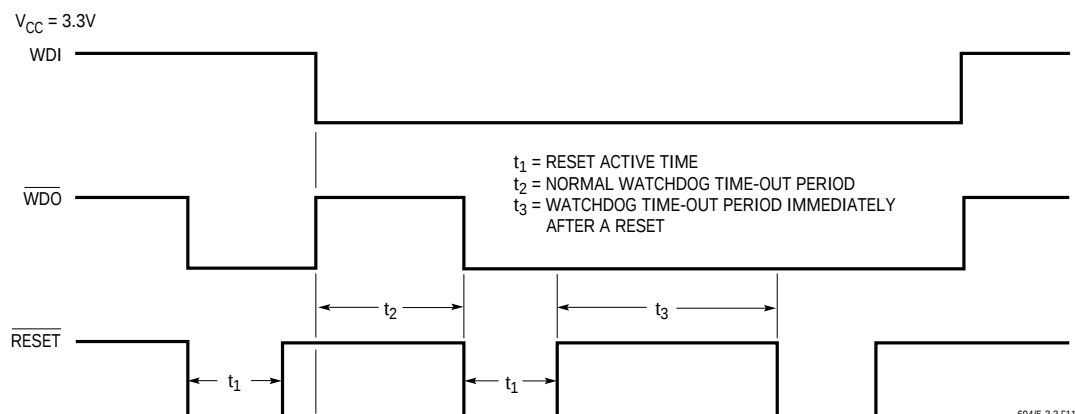

Figure 11. Watchdog Time-Out Period and Reset Active Time
every preset time-out period (see Figure 11). The reset active time is adjustable on the LTC695-3.3. An external push-button reset can be used in connection with the RESET output. See Push-Button Reset in Applications Information section.
**WDI:** Watchdog Input. WDI is a three-level input. Driving WDI either high or low for longer than the watchdog time-out period, forces both RESET and WDO low. Floating WDI disables the watchdog timer. The timer resets itself with each transition of the watchdog input (see Figure 11).
**WDO:** Watchdog Logic Output. When the watchdog input remains either high or low for longer than the watchdog time-out period, WDO goes low. WDO is set high whenever there is a transition on the WDI pin, or LOW LINE goes low. The watchdog timer can be disabled by floating WDI (see Figure 11).
The LTC694-3.3/LTC695-3.3 provide a watchdog timer function to monitor the activity of the microprocessor. If the microprocessor does not toggle the watchdog input (WDI) within a selected time-out period,  $\overline{\text{RESET}}$  is forced to active low for a minimum of 140ms. The reset active time is adjustable on the LTC695-3.3. Since many systems can not service the watchdog timer immediately after a reset, the LTC695-3.3 has a longer time-out period (1.0 second minimum) right after a reset is issued. The normal time-out period (70ms minimum) becomes effective following the first transition of WDI after  $\overline{\text{RESET}}$  is inactive. The watchdog time-out period is fixed at 1.0 second minimum on the LTC694-3.3. Figure 11 shows the timing diagram of watchdog time-out period and reset active time. The watchdog time-out period is restarted as soon as  $\overline{\text{RESET}}$  is inactive. When either a high-to-low or low-to-high transition occurs at the WDI pin prior to time-out, the watchdog time is reset and begins to time out again. To ensure the watchdog time does not time out, either a high-to-low or low-to-high transition on the WDI pin must occur at or less than the minimum time-out period. If the input to the WDI pin remains either high or low, reset pulses will be issued every 1.6 seconds typically. The watchdog time can be deactivated by floating the WDI pin. The timer is also disabled when  $V_{\text{CC}}$  falls below the reset voltage threshold or  $V_{\text{BATT}}$ .